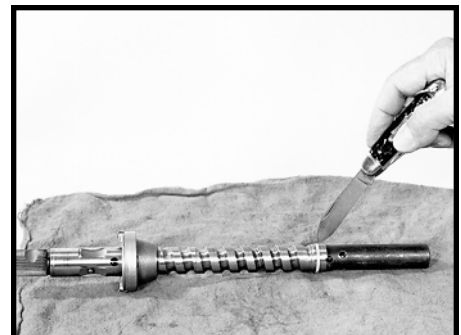

Figure 77
38. Remove and discard the Teflon worm shaft seal ring (19) and O-ring (18). SEE FIGURE 77.